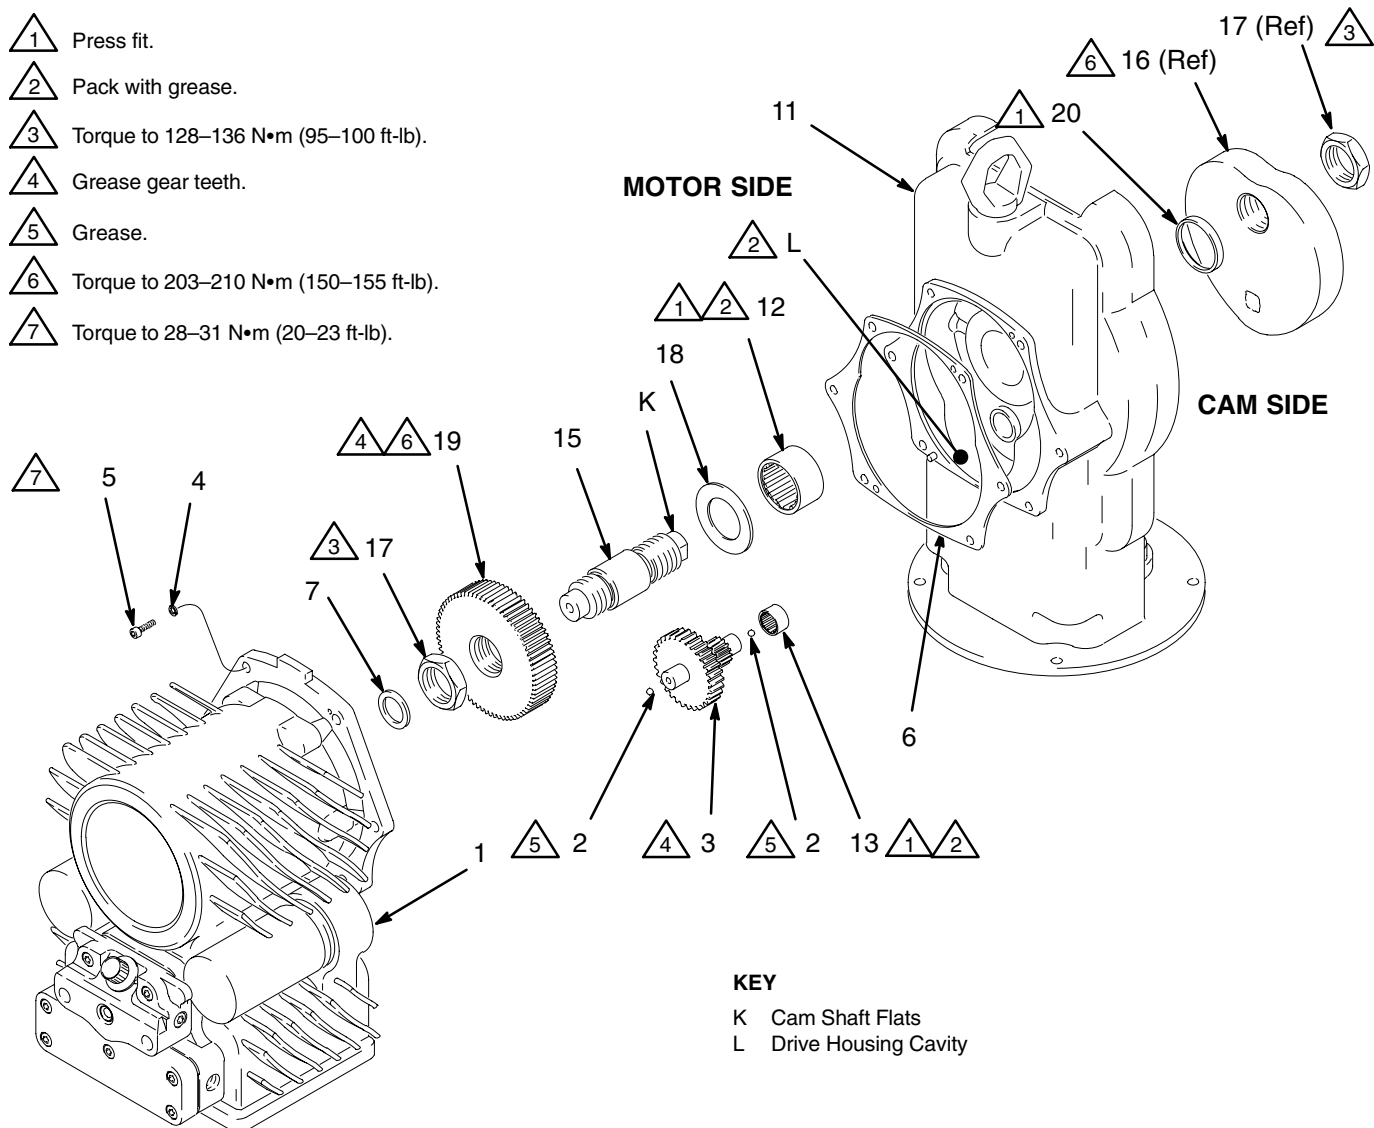
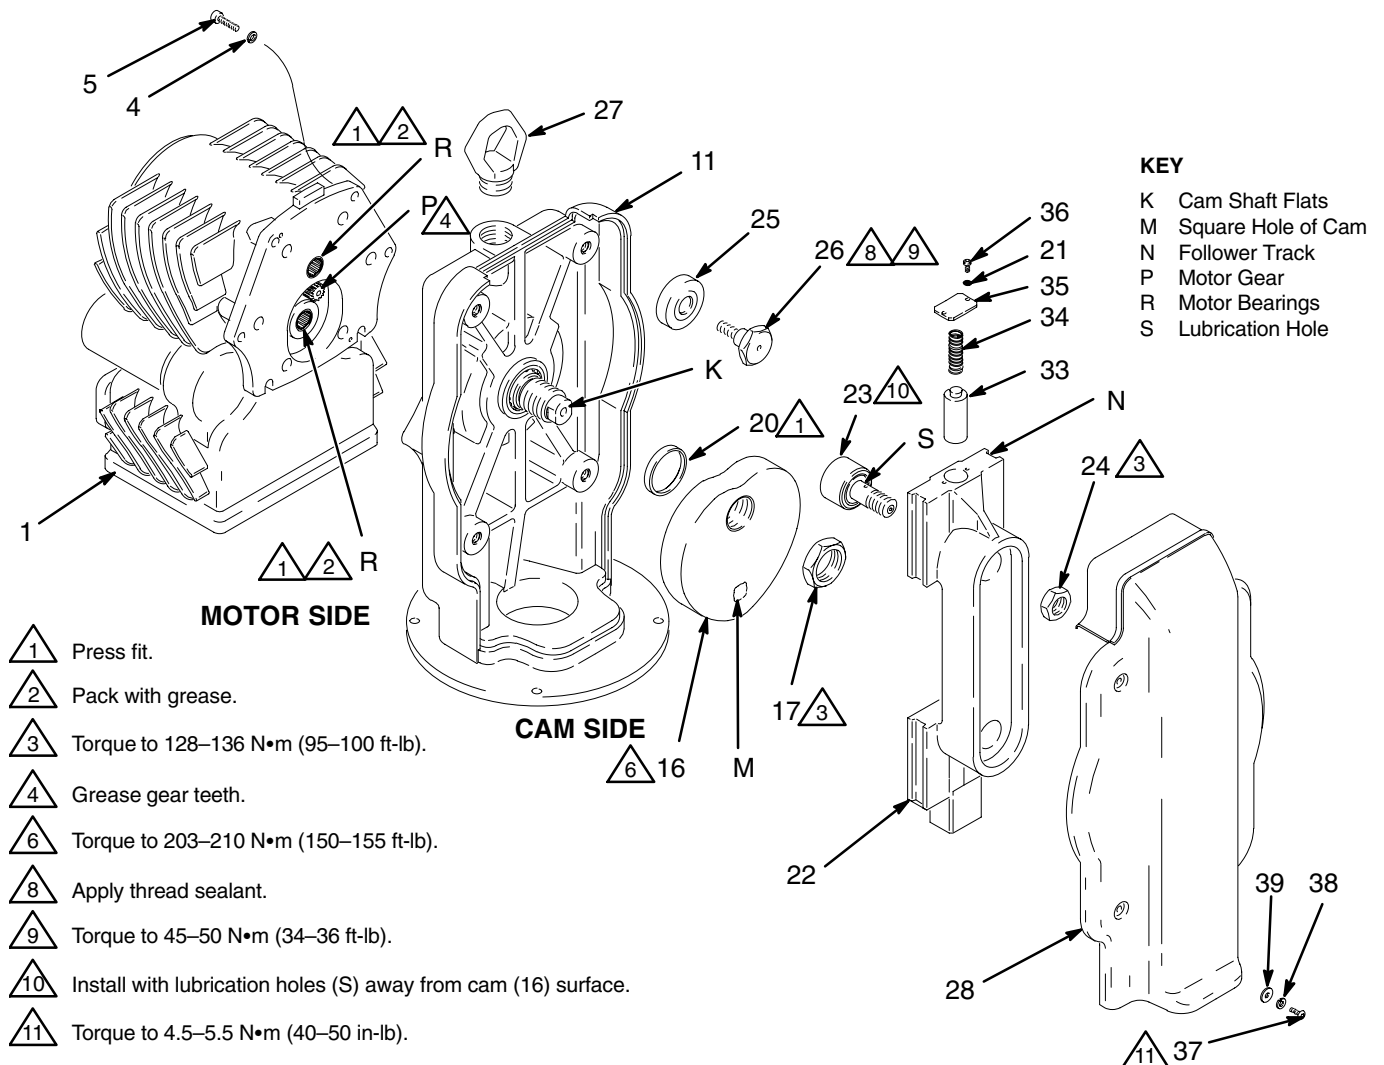

Fig. 6
Fig. 7
**NOTE:** Follow all notes in Figs. 6 and 7. When grease is specified, use Graco Part No. 110293.
**NOTE:** Perform steps 1 through 3 if the seal (20), large bearing (12), and/or small bearing (13) have been removed from the drive housing (11). If these parts are not removed, skip to step 4.
1. Place the drive housing (11) in a press with the motor side down. Press-fit the seal (20) into the large hole in the housing from the cam side, so it is flush with the face of the housing. See Fig. 6.
2. Turn the drive housing so the cam side is down. Press-fit the bearing (12) into the drive housing (11) until it seats. Pack the bearing with grease.
3. Press-fit the gear reducer bearing (13) into the small hole in the drive housing (11) until it seats. Pack the bearing with grease.
4. Place the flats (K) of the cam shaft (15) in a vise. Screw the large gear (19) onto the shaft. Install the nut (17) and torque to 128–136 N•m (95–100 ft-lb).
5. Slide the thrust bearing (18) onto the cam shaft (15), then push the shaft through the housing (11) so the end with the flats (K) is on the cam side of the housing. Grease the teeth of the gear (19). Install the thrust washer (7) on the shaft.
6. Screw the cam (16) onto the cam shaft (15). Insert a square driver in the square hole (M) of the cam. Hold the shaft steady with a large adjustable wrench on the flats (K). Torque the cam (16) to 203–210 N•m (150–155 ft-lb). See Fig. 7.
7. Screw the nut (17) onto the cam shaft and torque to 128–136 N•m (95–100 ft-lb).
8. Install the Teflon bar (33) and spring (34) into the top of the carriage follower (22). Secure with the retainer (35), screws (36), and washers (21).
9. Install the cam followers (23) on the carriage follower (22), so the lubrication holes (S) face **away** from the cam (16) surface. Secure with the nuts (24) and torque to 128–136 N•m (95–100 ft-lb).
10. Apply thread sealant and install two guide wheels (25) and shoulder screws (26) along the same edge of the drive housing (11). Torque to 45–50 N•m (34–36 ft-lb). Install the carriage follower (22) so the guide wheels (25) engage the follower track (N). Install the other two guide wheels in the opposite track, and torque the screws (26).
11. Install the gasket (6) on the face of the drive housing (11). Fill the drive housing cavity (L) with grease. See Fig. 6.
12. Be sure the balls (2) are in place in the gear reducer (3). Grease the balls and the gear teeth. Slide the gear reducer into the drive housing (11). See Fig. 6.
13. Grease the teeth of the motor gear (P). Pack the motor bearings (R) with grease. See Fig. 7.
14. Align the motor (1) with the drive housing (11) and secure with the screws (5) and washers (4). Torque to 28–31 N•m (20–23 ft-lb). See Fig. 6.
15. Reinstall the drive section shield (28) and secure with the screws and washers (37, 38, 39). Torque to 4.5–5.5 N•m (40–50 in-lb). See Fig. 7.